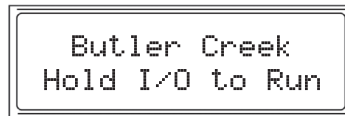

Fig. 2
- Continue holding the **Power** button until the System Ready message (*Fig. 2*) is displayed. This will take approximately 4-5 seconds.